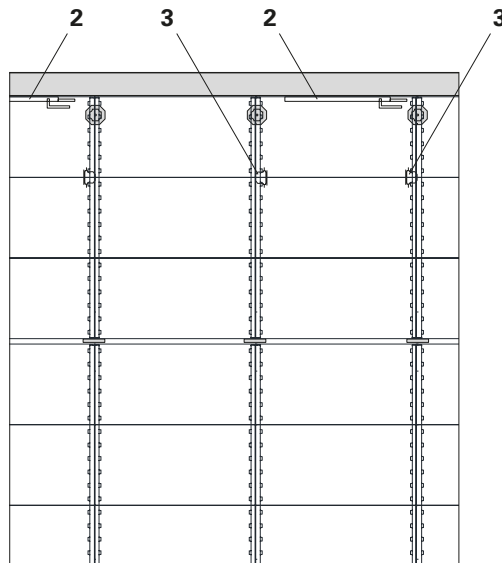

Fig. C1.01
Secure the fixed panels with two additional Panel Wedge Clips SPKK (3). (Fig. C1.01)